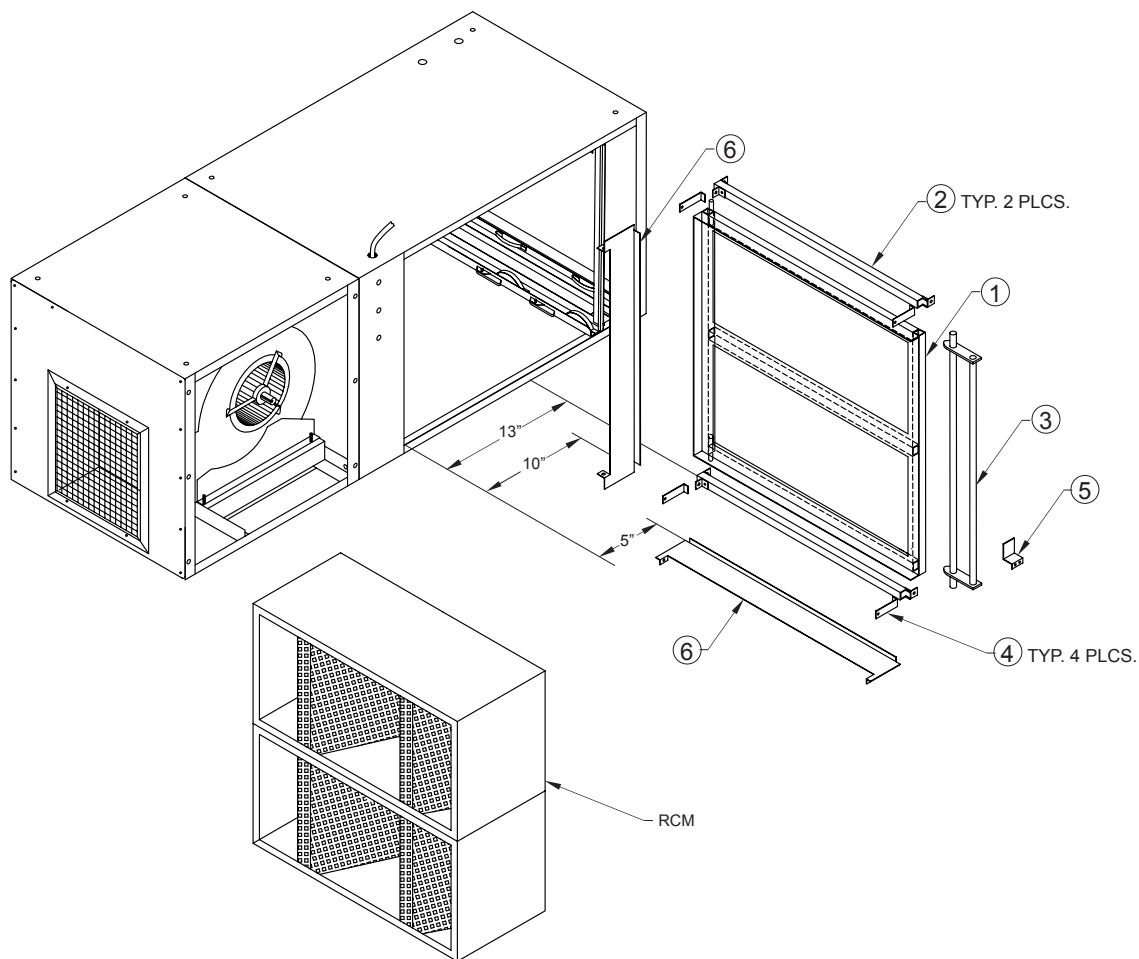

FIG. 4
1. On units with optional HEPA or charcoal filters, an adjustable filter track kit is used to complete the seal of these filters to the filter stop (See **FIG. 4 & 5**). If the unit was ordered with either a HEPA or charcoal filter, this adjustable filter track kit was included with the unit. If a HEPA or charcoal filter is ordered as an after-market item, the adjustable filter track kit should be ordered as well. Order Part No. 38036-01.